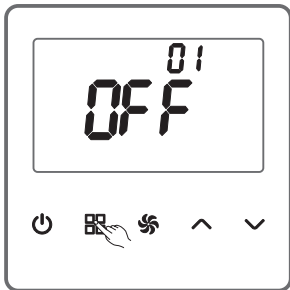

Figure 7
As shown in the Figure 7 (the function has been disabled), on the parameter setting page, press  (MODE) to switch the option number to 01.  (UP) or  (DOWN) is provided to allow a switch of ON and OFF (—enable or disable the function).
(2) Energy saving function